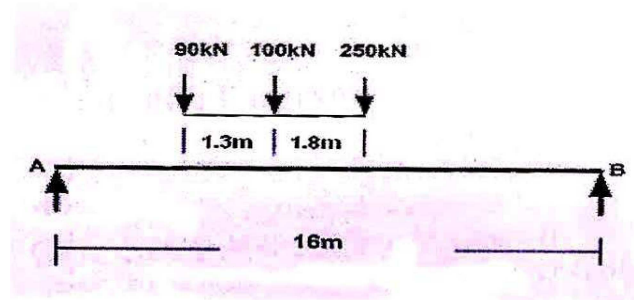

Fig. 12(b)
- (b) Find absolute maximum bending moment under leading load 100 kN for the girder shown in Fig. 12(b). [8]